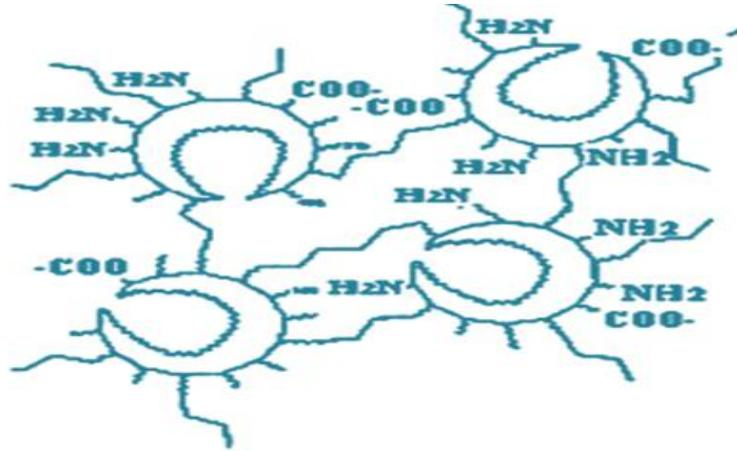

Fig. 8.6: Immobilization of enzyme by covalent cross-linkage
- **Covalent cross-linkage:** Enzyme and microbial cells can be immobilized by cross-linking them with bi or multi-functional reagents such as glutaraldehyde (Fig.8.6).